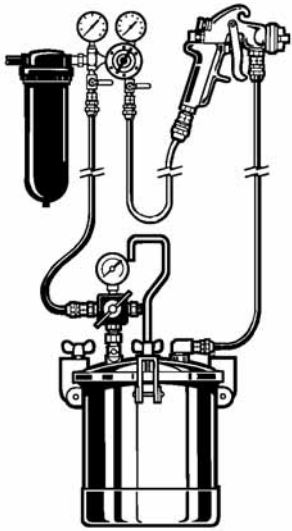

Figure 4 - Typical Pressure Feed Gun with remote pot
Figure 4 shows a material container some distance away from its pressure feed gun.
*Pressure Feed...* the material is fed by positive pressure as in Figure 4.